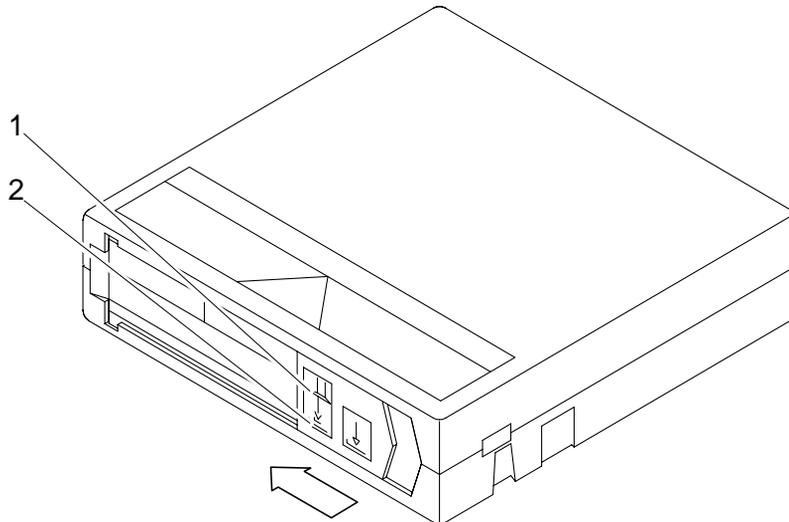

FIGURE 2-20 Setting the Write-Protect Switch
Each CompacTape cartridge has a write-protect switch (FIGURE 2-20). This switch determines whether new data can be written to the cartridge (*write enabled*) or whether data on the cartridge is protected from being erased or overwritten (*write protected*).
- To write-protect the cartridge, move the switch to the left (as indicated by the arrow in FIGURE 2-20). To write-enable the cartridge, leave the switch in default condition (to the right).